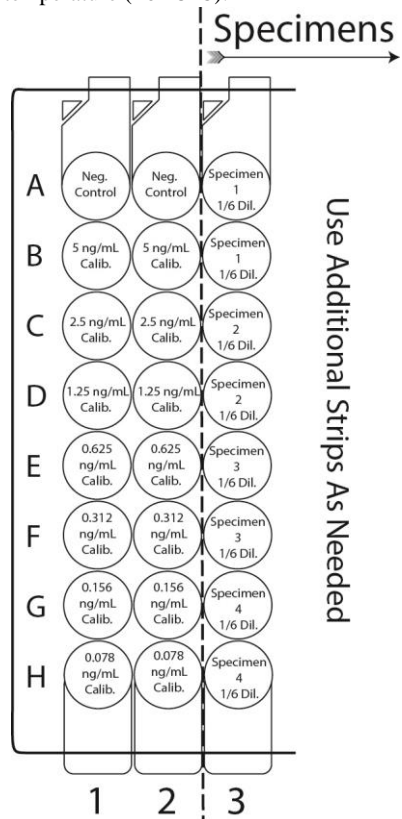

Figure 1 - Well configuration for duplicate well ELISA testing. Final concentrations are shown.
5. Add 50 μ L/well of the Negative Control, the diluted calibrator series and the diluted specimens, prepared previously, to the designated wells of the test strips as indicated in Figure 1. Tap gently to mix.
Note: Dye color will change as controls, calibrators and specimens are added. Figure 1 illustrates using the recommended last (most dilute) seven calibrator dilutions which should cover the linear range. Any or all calibrators may be used as determined by the technician.